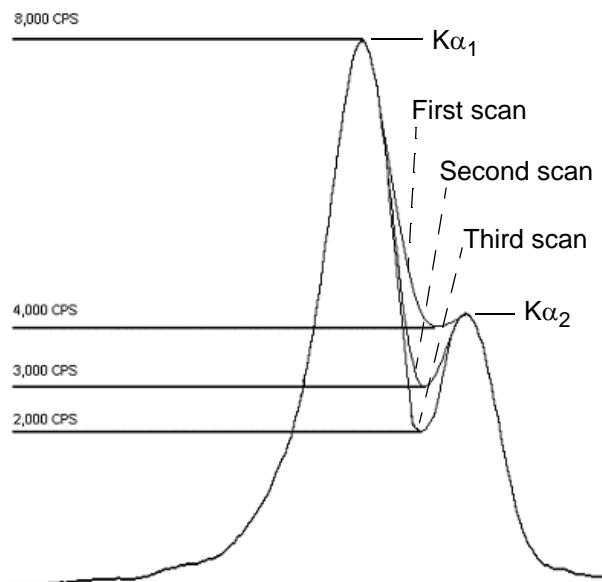

Figure 8.1 - Measure the intensity ratio
Complete a coarse alignment of the 2 DOF mount by running repeated PSD fixed scans of NIST SRM 1976 or Quartz. For a quick assessment of the alignment, compare the intensities of the main (104) peak to the valley between $K\alpha_1$ and $K\alpha_2$ (see the example in Figure 8.1). [Example: The first scan's intensity of the valley is 4,000 cps. The main peak's intensity is 8,000 cps. This represents a ratio of 2 (4,000:8,000 = 1:2)]. A ratio of 3.0 to 4.0 is desired. Once the max ratio is achieved, proceed to Section 8.2.
1. Run a PSD fixed scan. Use a standard reference material of the NIST SRM 1976 Corundum plate (104) or Quartz (101) reflection. Use the parameters in Table 8.1 for SRM 1976.
- After running the baseline scan, measure the ratio of the intensity of the main peak to the valley between the $K\alpha_1$ and $K\alpha_2$ peaks (see Figure 8.1).